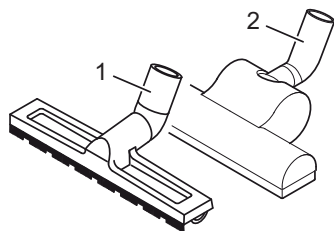

Fig. 7
■ **Parquet brush (Fig. 7/1):** Its long bristles make it especially suitable for cleaning delicate surfaces (e. g. parquet and laminate floors).
■ **Turbo brush (Fig. 7/2):** This has a rotating brush head and is therefore ideally suited for deep-cleaning carpets.